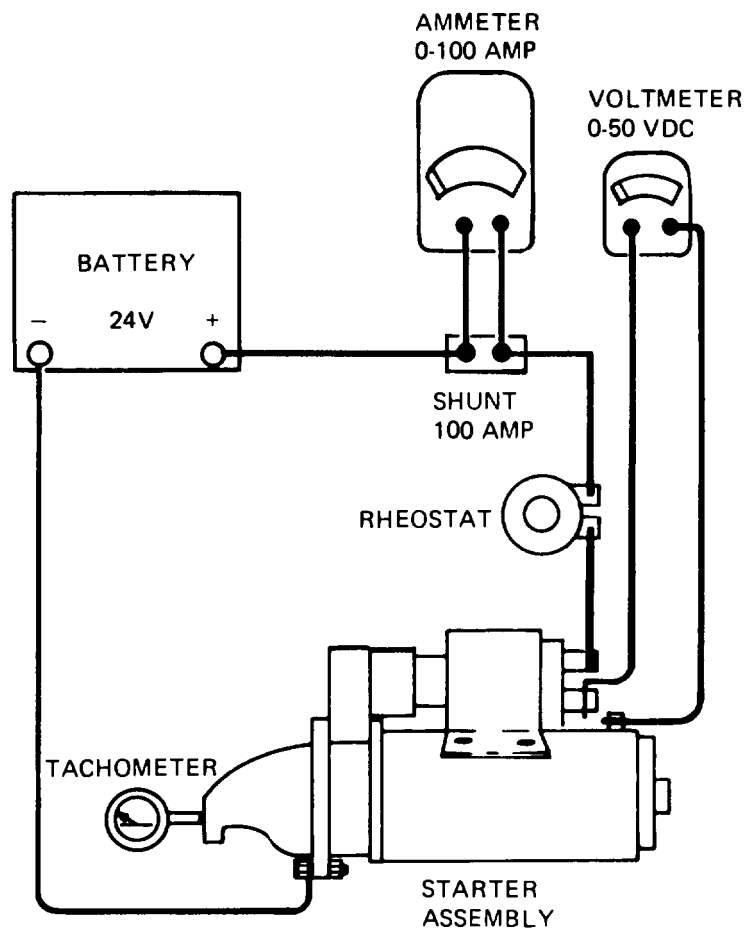

Figure 3-2. Starter Assembly Motoring Test Circuit
- (b) Install starter assembly into motoring test circuit shown in figure 3-2.